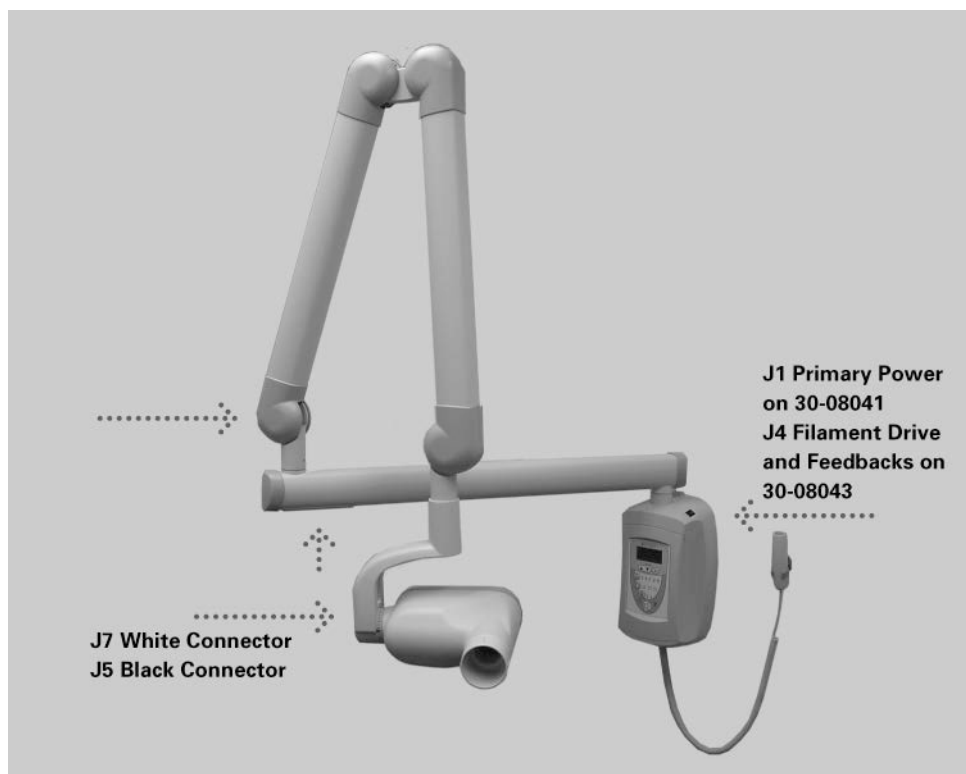

Figure 57
5. Check the condition of the cables between the Control Unit and the Tubehead assembly. If no X-ray occurs and no errors are displayed, the problem may lie within the conductors of the white connector (which is primary power to the Tubehead Assembly). If no X-ray occurs and the attempt is accompanied by a “snap” sound, the problem may lie with the conductors of the black connector (which is transmitting the feedback signals). Connections for this cable begin with controls at J1 of the Power Supply Board and J3 of the Logic Board. As shown in *Figure 57*, an internal set of connections will be accessed below the distal side of the horizontal arm and at the inside top of the Tubehead Yoke. The final set of connections is accessed by removing the Pivot Cap located at the attachment point of the Tubehead to the Yoke.
5. If these voltages are present, measure for the same values at the Tubehead Assembly at the connector J5 (black) on the blue and gray conductors and the blue and brown conductors. If the voltages are not present, inspect the inter-connect cables between the control and Tubehead Assembly. Connections for this cable begin with controls at J1 of the Power Supply Board and J3 of the Logic Board. As shown in *Figure 57*, an internal set of connections will be accessed below the distal side of the horizontal arm and at the inside top of the Tubehead Yoke. The final set of connections is accessed by removing the Pivot Cap located at the attachment point of the Tubehead to the Yoke.
Of particular importance are the conductors held by the black connectors. These conductors transmit the feedback values from the Tubehead Assembly and directly affect the control of power to the Tubehead Assembly. Connections for this cable begin with controls at J1 of the Power Supply Board and J4 of the Logic Board. As shown in *Figure 57*, an internal set of connections will be accessed below the distal side of the horizontal arm and at the inside top of the Tubehead Yoke. The final set of connections is accessed by removing the Pivot Cap located at the attachment point of the Tubehead to the Yoke.